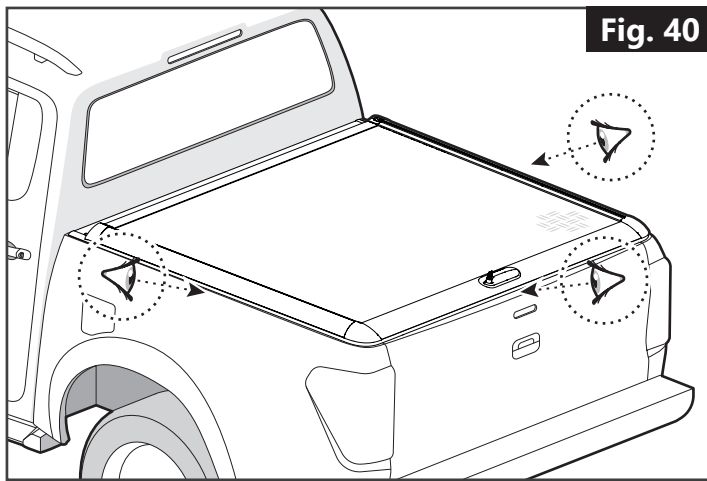

Fig. 40
- If the rubber seal around the cover does not sit correctly on the edge of the truck bed (**Fig. 40**), or if the cover is hard to fully close, the locking pins may not be positioned correctly.